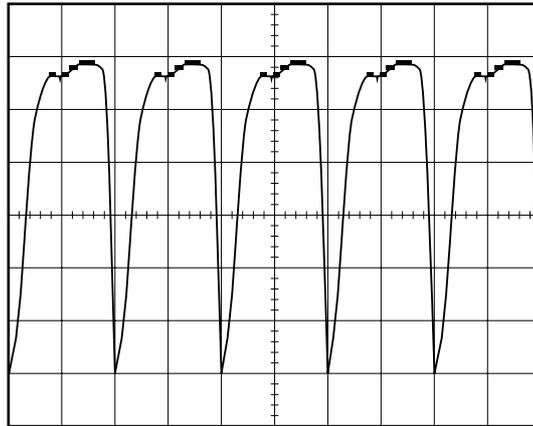

Figure 14. IR link, 1kHz sine wave to **Clock in**.
- 18 Check that the waveform is approximately as in figure 14. Amplitude > 2,5 Vp-p.